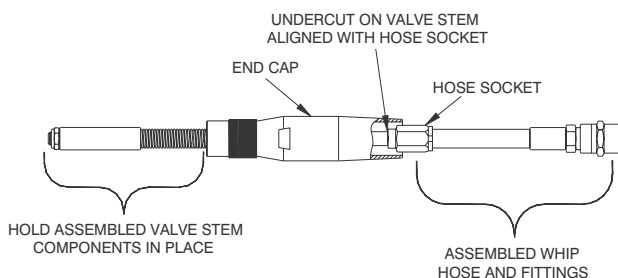

Figure 11-27. Hose Socket and Valve Stem Undercut.
9. Continue tightening the Valve Stem into the Hose Socket until the Valve Stem undercut reaches the edge of the Hose socket, as shown in Figure 11-27.